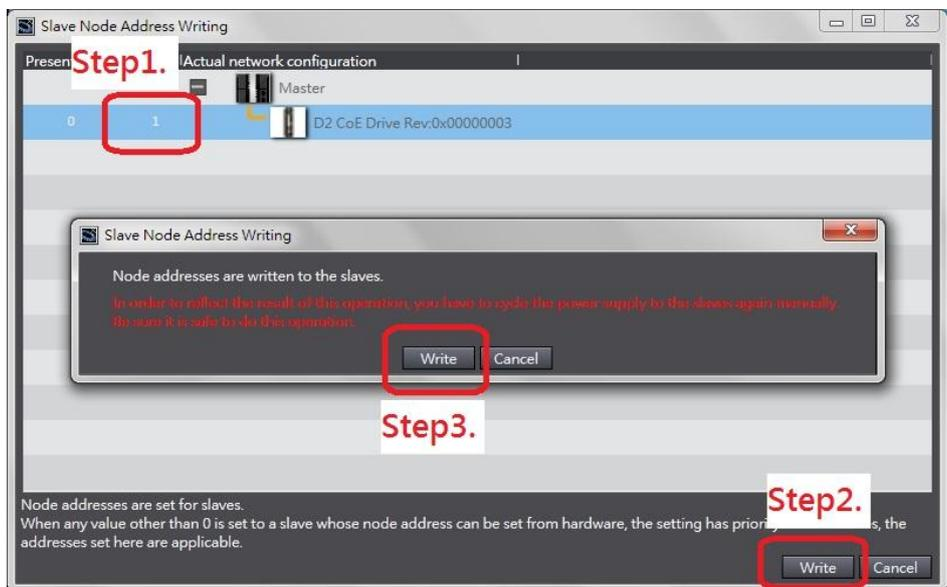

Fig. 5-39
- (4) Write slave ID in drive in the window of “Slave Node Address Writing”, as shown in Fig. 5-39.